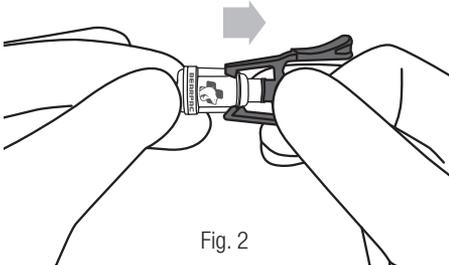

Fig. 2
3. Remove the plastic sheath from the catheter connector. While holding the catheter firmly, insert the (blue) male catheter connector on the end of the drainage line into the catheter valve until you hear or feel a connection (click). Gently pull back on drainage line to confirm the connection is secure. (Figure 2)